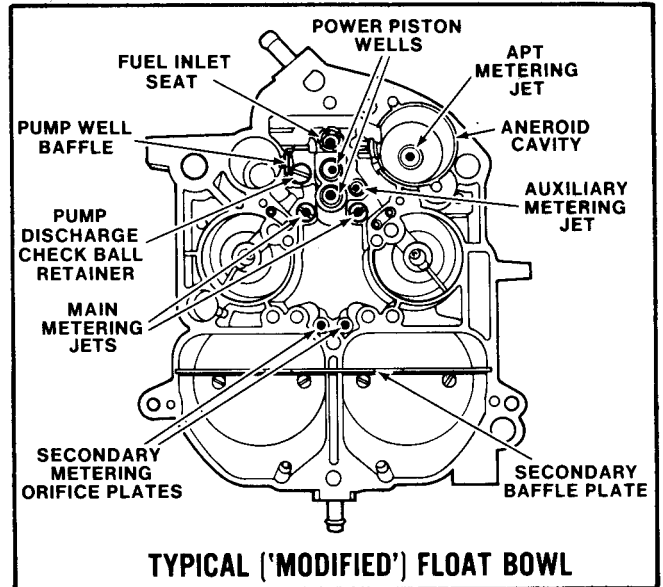

Figure 54 M4MC-M4ME "Modified" Float Bowl - Typical
15. Remove main metering jets only if necessary (Figure 54).
16. Using a screwdriver, remove pump discharge check ball retainer, then steel check ball (Figure 54).